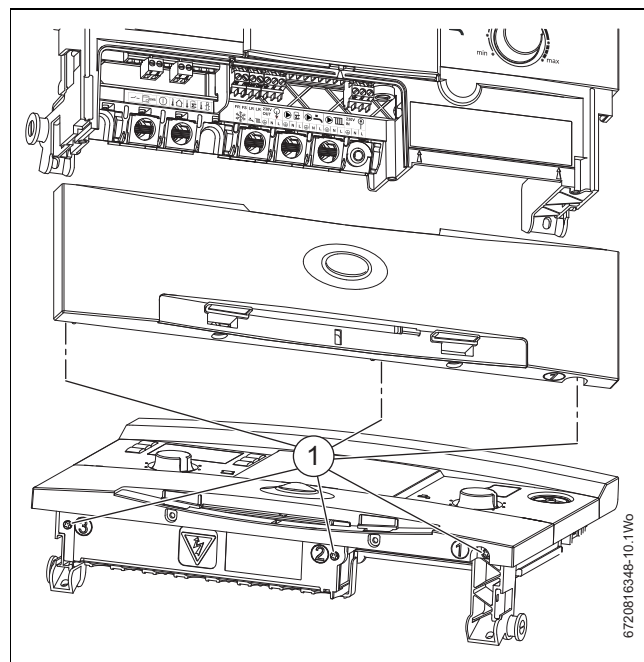

Fig. 17 Removing the connection cover
- ▶ Referring to figure 17, remove the three screws [1] retaining the installer access cover.